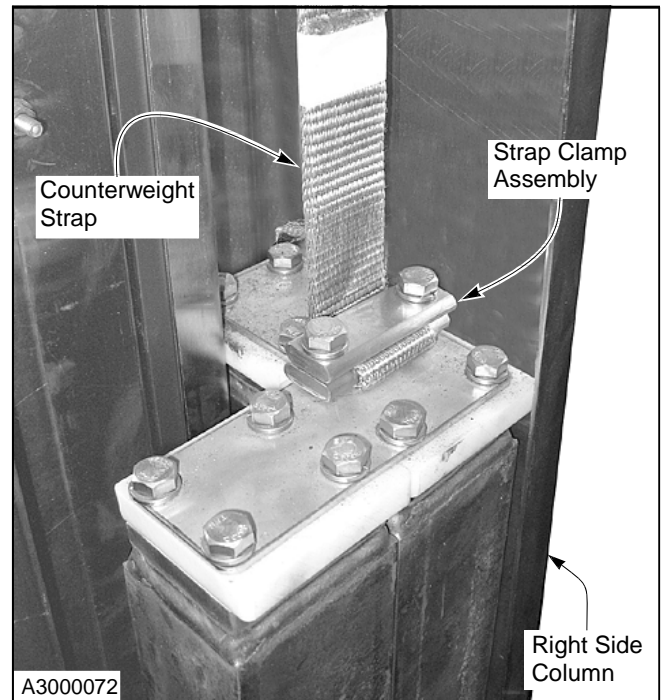

Figure 26
5. Disconnect the counterweight assembly from the nylon strap. Save all hardware for later use. (See Figure 26.)
6. Remove the counterweight from the side column. (See Figure 26.)